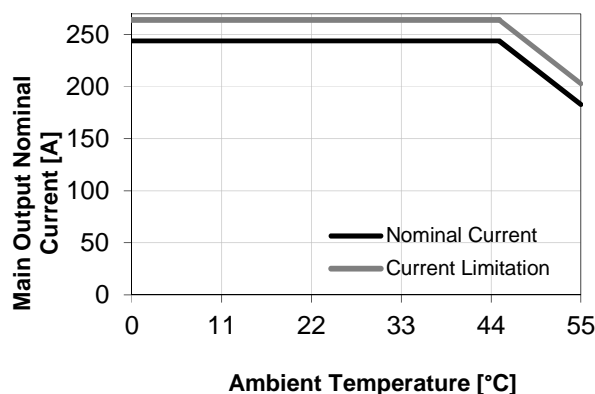

Figure 20: Derating on  $V_1$  vs.  $T_a$
2) see Figure 20 for linear derating  $> 45^\circ\text{C}$
The main output current limitation level  $I_{V1\text{ lim}}$  will decrease if the ambient (inlet) temperature increases beyond  $45^\circ\text{C}$  (see Figure 20). Note that the actual current limitation on  $V_1$  will kick in at a current level approximately 20A higher than what is shown in Figure 20 (see also chapter 10 for additional information).